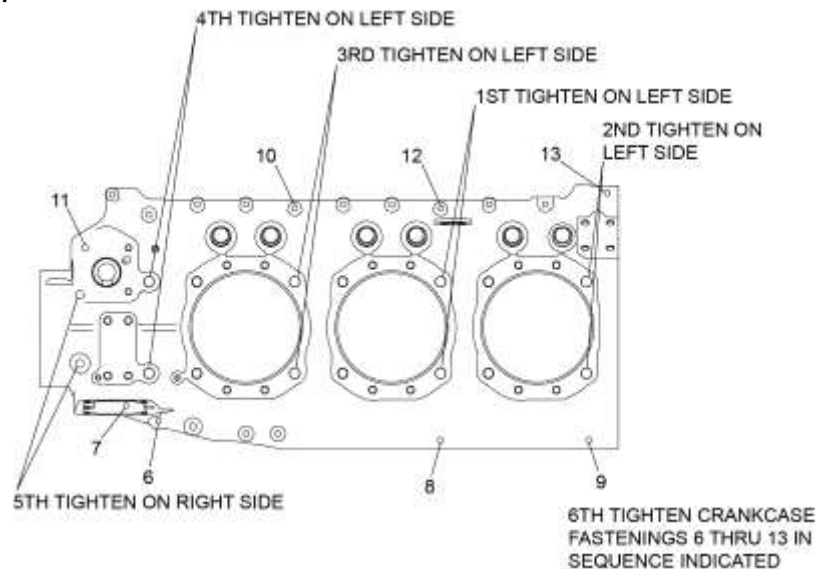

Figure 88
CAUTION TO ENSURE CORRECT ASSEMBLY OF THE CRANKCASE HALVES, TO MINIMIZE THE POSSIBILITY OF THE SUBSEQUENT LOOSENING OF CYLINDER BASE NUTS, AND TO ENSURE A UNIFORM LOAD ON THE MAIN BEARINGS IN THE CRANKCASE, FOLLOW THE STEPS IN THE TORQUE SEQUENCE IN THE ORDER GIVEN IN FIGURE 88.
- (14) Install a nut (and spacer as required) on each thru-stud at the mating flanges on the crankcase halves in the sequence shown in Figure 88 to attach the crankcase halves securely.
NOTICE: To ensure uniform loading on the main bearings, immediately torque the nuts on the thru-studs in sequence (Figure 88), beginning at the center of the crankcase and then progressing alternately to the rear and front of the engine.
- (15) Tighten the nuts on thru-studs at the:
- (16) Torque the nuts in sequence at positions 1st, 2nd, 3rd, and 4th to 25 ft.-lb. (34 Nm).
- (17) Re-torque the nuts in sequence at positions 1st, 2nd, 3rd, and 4th per the torque values in Table 5.
- (18) Torque the front bolts at position 5 on the right side to 25 ft.-lb. (34 Nm).
- (19) Torque the nuts at positions 6 thru 13 (in the order shown in Figure 88) as indicated in Table 5.
- (20) Torque the remaining crankcase fasteners per Table 5.
- (21) Make sure all fasteners on the crankcase are torqued correctly and none are loose.
- (22) Install the 3/8 in. slotted nut and washer on the stud at the rear camshaft bearing (Figure 88). Torque the nut to 215 in.-lb. (24 Nm). Safety wire the nut as shown in Figure 89.